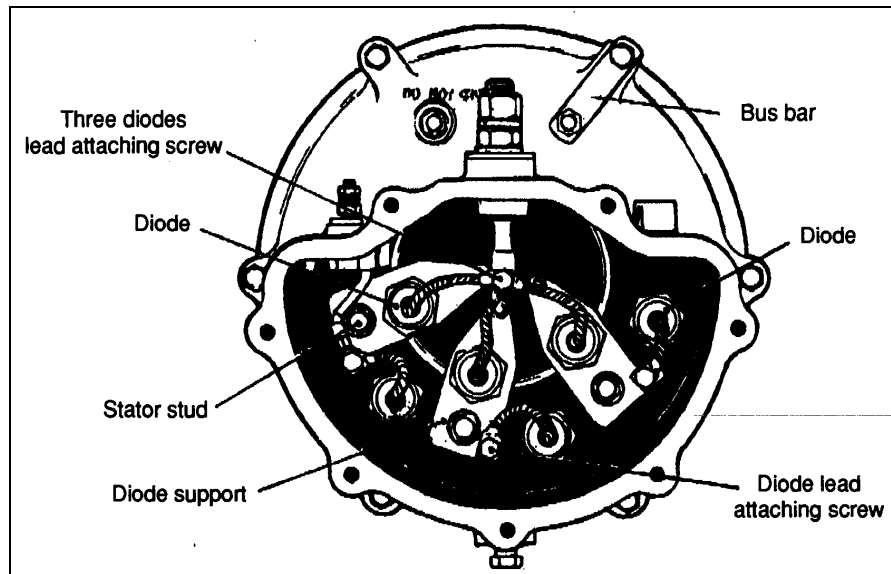

FIGURE 23: VIEW OF RECTIFIER END FRAME WITH COVER REMOVED
5. Disconnect all diode flexible leads; i.e. three from the output terminal stud and three from the diode supports. See figure 23 for more details.